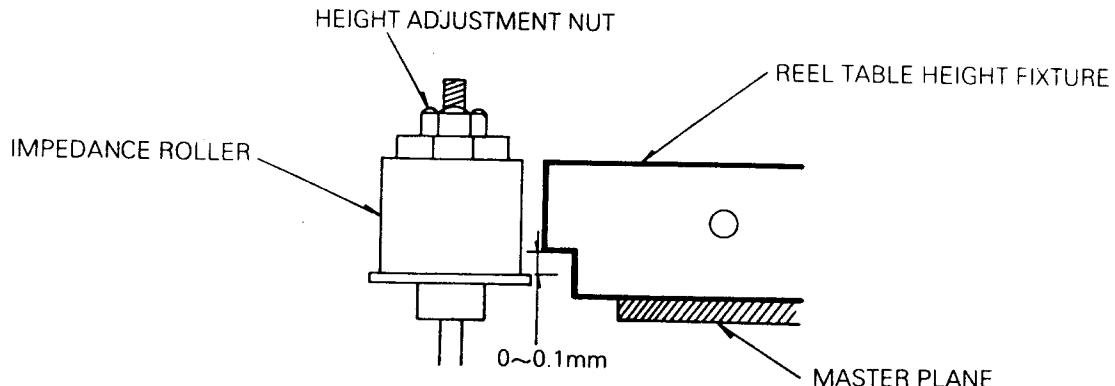

Fig. C-6-1
- 1) Set the clearance between the bottom of the P1 Roller Flange and under cut of Reel Table Height Jig to 0~0.1mm(Fig. C-6-1)